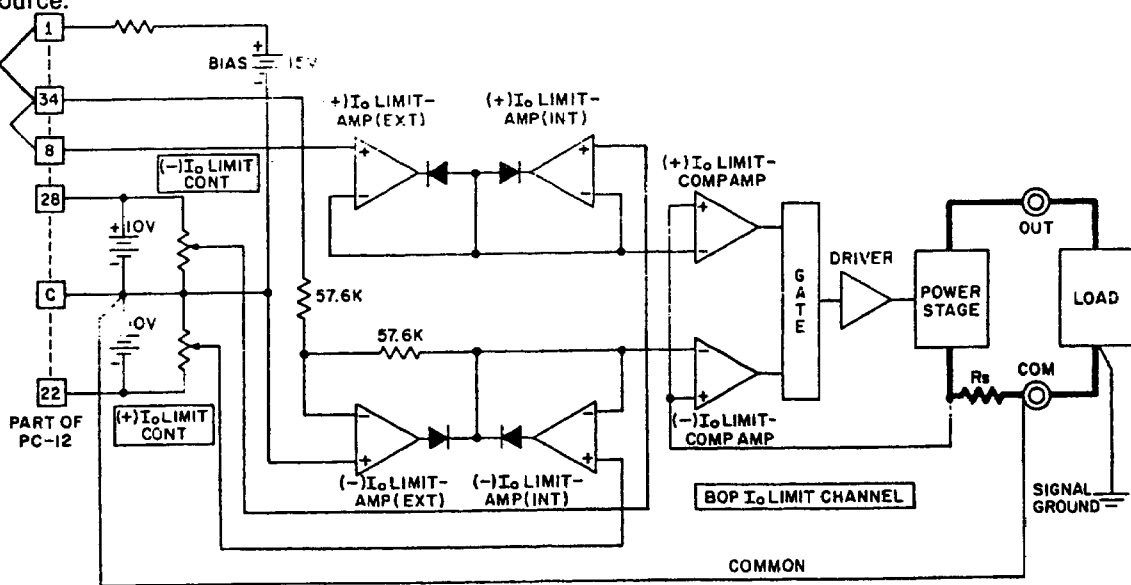

FIG. 3-20 LOCAL (FRONT PANEL) CONTROL OF THE BOP CURRENT LIMIT CIRCUIT
**3-32** The output current is sensed by the current sensing resistor ( $R_s$ ). The voltage drop across  $R_s$  is proportional to the output current value, and is amplified by a current sensing amplifier (not shown in FIG. 3-20) and is applied at the input to the  $(-)$   $I_o$  LIMIT COMPARISON AMPLIFIER and to the  $(+)$   $I_o$  LIMIT COMPARISON AMPLIFIER. In the local (front panel) control mode, as well as in the external control mode, a 0 to 10 volt signal, applied at the inverting inputs of the  $\pm I_o$  LIMIT COMPARISON AMPLIFIERS, will control the current limit point over the entire output current range of each BOP model. For the internal (front panel) control mode, the control signal is derived across both 10 volt reference sources, applied by means of the  $\pm I_o$  LIMIT controls to the internal  $\pm I_o$  LIMIT AMPLIFIERS (both connected as 1:1 voltage followers) and directed to the respective inputs of the  $\pm I_o$  LIMIT COMPARISON AMPLIFIERS. In the internal control mode, both  $\pm I_o$  LIMIT AMPLIFIERS (EXT) are biased "off" by means of the 15V BIAS source.